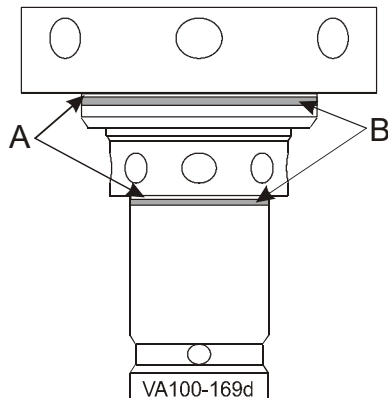

Figure 40 - Assembly
3. Screw the upper stem in until the scribe line (Figure 40, item A) within the etch mark adjustment zone (item B) aligns with the bottom of the adjustment sleeve. This is the factory-set lower seat clean position. See “Seat Cleaning Adjustment” on page 25 for instructions on modifying the seat clean movement.